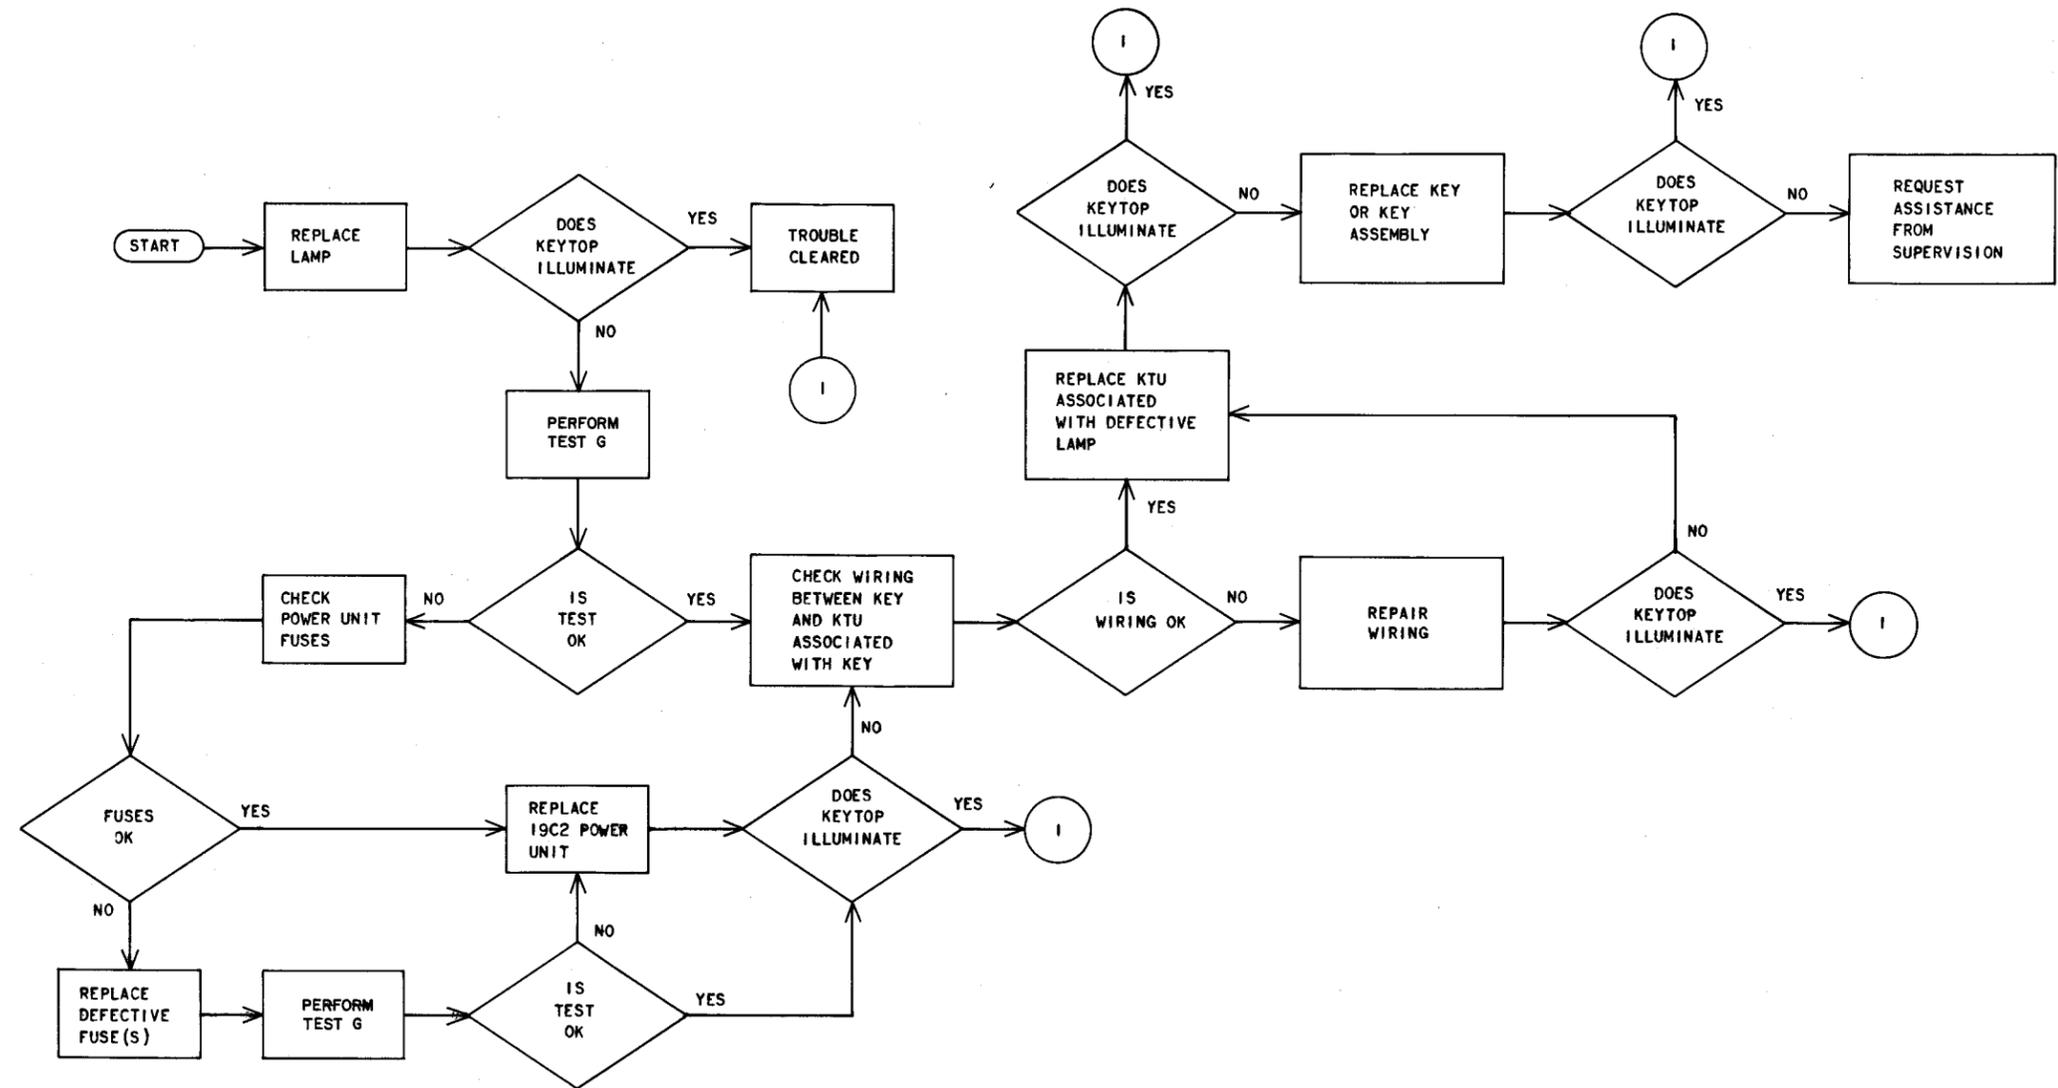

Fig. 7—Troubleshooting Flowchart for Lamps Under Keytops Associated With Telephone
**Note:** If a lamp indication is required during any of the tests and the lamp does not illuminate, check the lamp according to Fig. 7.